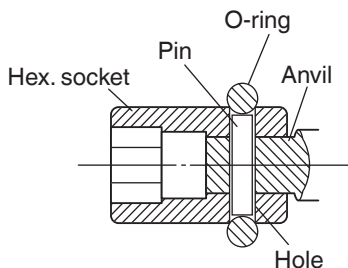

Fig. 4
(2) WR25SE: Pin, O-ring type (Fig. 4)